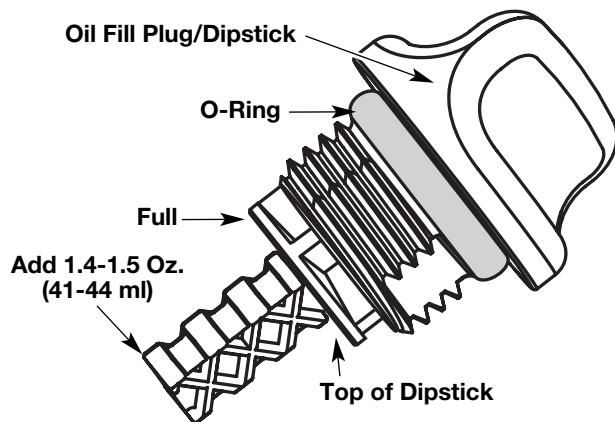

Fig. 15
5. Remove the oil fill plug/dipstick and check the oil level. Oil should be up to the top of the dipstick (Fig. 15).